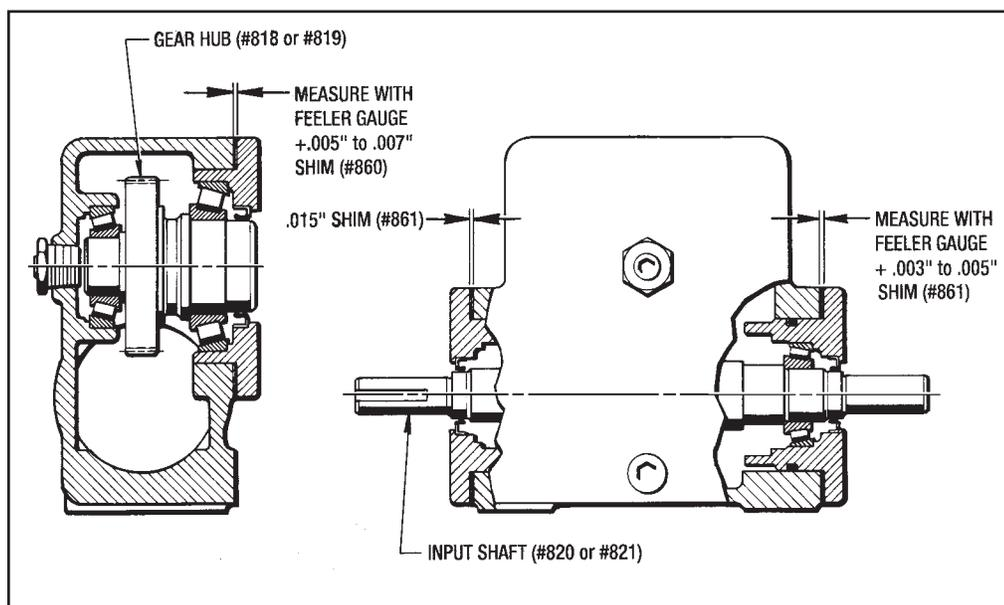

Figure 6.13 - Determining Shim Thickness of Bearing Retainers
4. Install the Bearing Retainer (#803) that has the Freeze Plug (#828) in it, but without Shims (#861) onto the Housing (#800) with (4) Screws (#894).
5. Using a feeler gauge, determine the thickness of shims needed. Then add .003" to .005" additional shims for appropriate bearing end play. (See Figure 6.13).